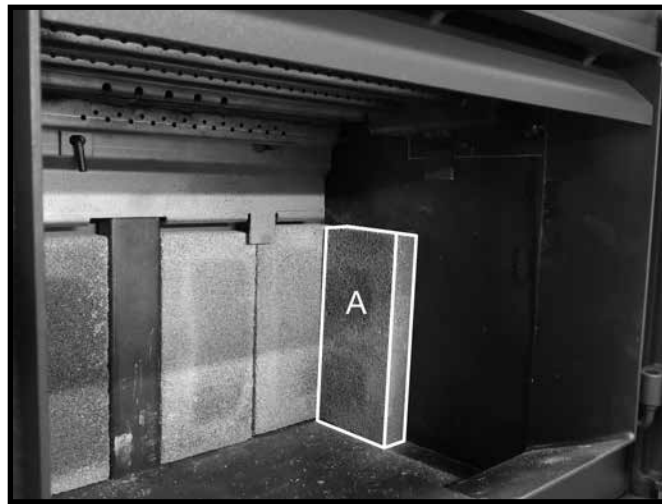

Figure 30: 1st side wall brick in place.
4. For the side walls: Stand an "A" firebrick against the side wall and up against the rear wall firebrick (Figure 30).